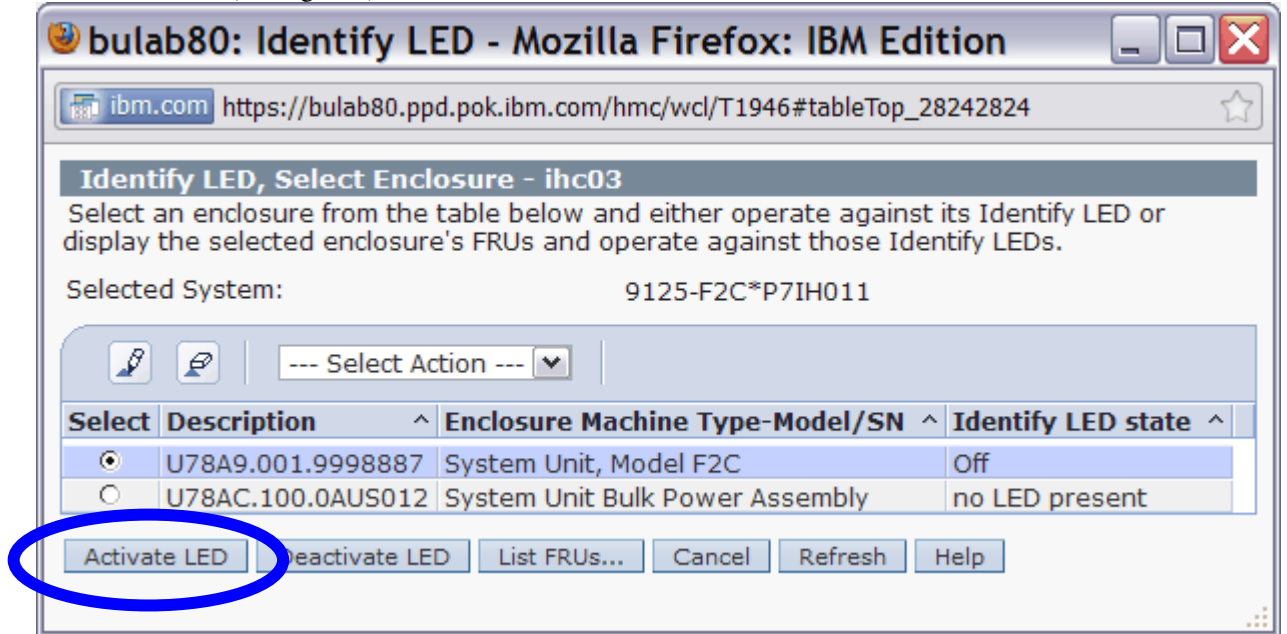

Figure 4 System Unit, Model F2C Selection – Activate LED
- STEP 5 In the window titled **Identify LED, Select Enclosure** select **System Unit, Model F2C** then *click* the **Activate LED** button (see Figure 4). This will cause the CEC ID LED to flash, as well as the UEPO Panel of the frame.